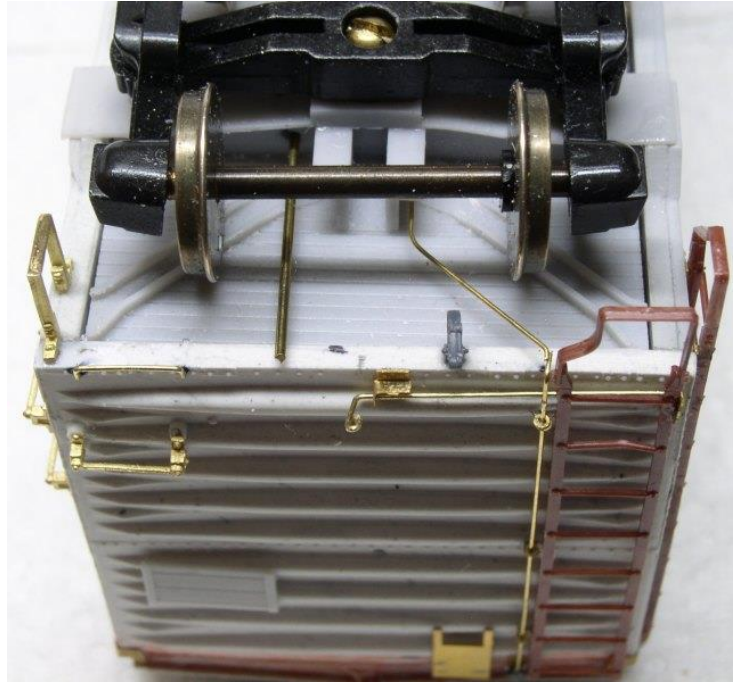

Figure E9
13. Turn over the car. On the bottom of the end, measure 17" to the right of centre. Drill a hole using a number 69 bit. Remove the Bell Crank from the Brake Sprue and glue it in place. See Figure E9.